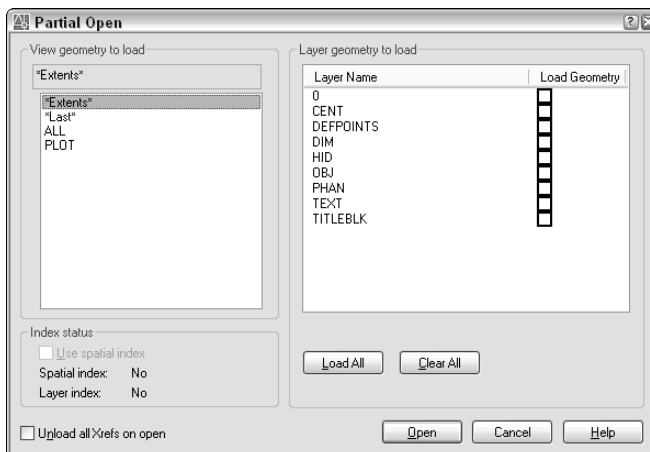

**Figure 8-10:** Use the Partial Open dialog box to open only the part of a drawing contained in a named view.
2. Choose a drawing and then click the Open button's drop-down box. Choose Partial Open to open the Partial Open dialog box, shown in Figure 8-10.